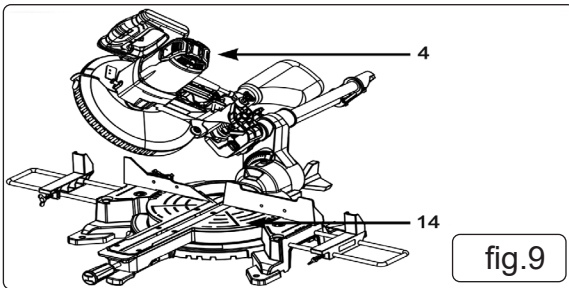

fig.9
6.7.5. Holding the handle (fig 1 - 1) rotate the machine head (fig 9 - 4) to the left until the required angle is indicated by the pointer (fig 2 - 19) on the bevel scale (fig 2 - 18).